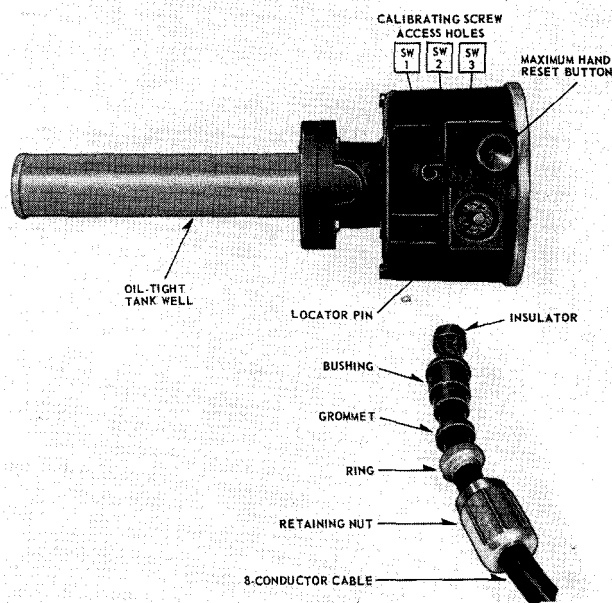

FIG. 5. Bottom View of TRO-1 Relay showing Cable Connector and Socket
Calibration of the micro-switches can be accomplished from the outside of the case by engaging any of three set screws with a special calibration tool. The calibration entrance holes are located adjacent to the cable connector socket as seen in Fig. 5.
The control circuit leads are brought through the underside of the case by means of an 8-conductor plug-in cable attachment, the details of which are shown in Figure 5. This connector consists of the following items of which items 2 and 3 form a sub-assembly:
Provision is made for adjustment of the calibration of any of the three switches through holes located in the base of the relay case adjacent to the cable entrance. See Fig. 5. A small cover plate must first be unfastened to expose the three holes.
The required number of degrees adjustment of a switch should be divided by the factor 13.3 to determine the exact part of a turn required to change the switch closing temperature. Clockwise rotation of the screw increases the temperature at which the given switch will close. Counterclockwise rotation will reduce the temperature. The switch may be adjusted to any temperature in the range of 50 to 105°C. See Fig. 5 for location of the correct alignment hole.